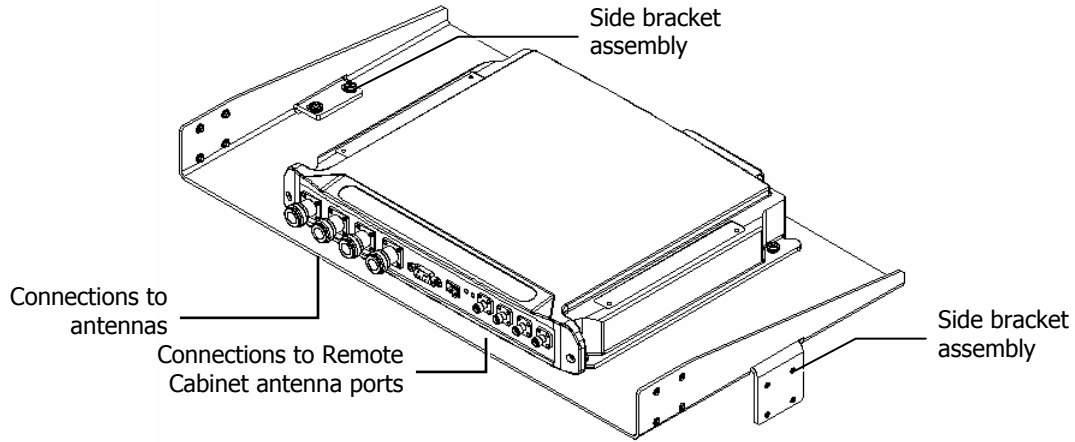

Figure 3-5. MA 850A1 Rack Installation
1. Assemble two side brackets to the plate sides as illustrated in Figure 3-5.
1. Assemble the side brackets as illustrated in Figure 3-5.